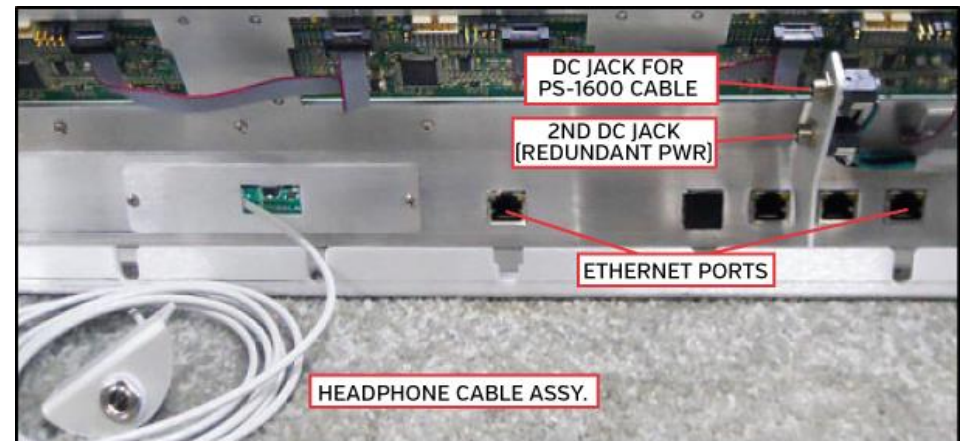

Figure 2-2 LXE Surface Connections
2. Remove the rear cover panel from the LXE frame to view how the DC cable (or cables with redundant supply), Ethernet cable, and the headphone cable assembly (Figure 2-2) are plugged in. Mark the countertop below one of the frame openings.
Three cables connect to the LXE Surface: a customer-supplied Ethernet cable, to connect the Surface to a WNIP gigabit switch port, a DC cable (supplied) to connect it to the PS-1600 power supply, and the board operator Headphone jack cable assy., which may already be plugged into the Surface Host board. These cables enter the frame thru the countertop hole and plug in as shown in Figure 2-2.